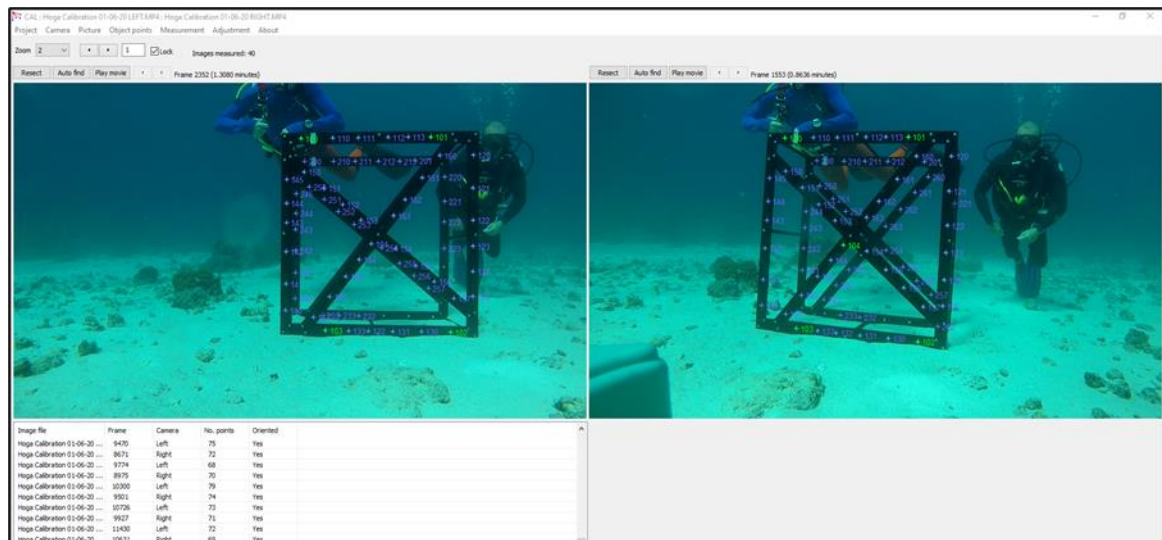

Figure 6. Points 100-103 (green) have been successfully measured in the left and right images. Point 104 and the others (blue) have been automatically detected.
- Repeat for points 100-103 in the right image. These eight points should now all appear green, and the others blue (**Figure 6**). Check that 104 (the central point) is also correct.